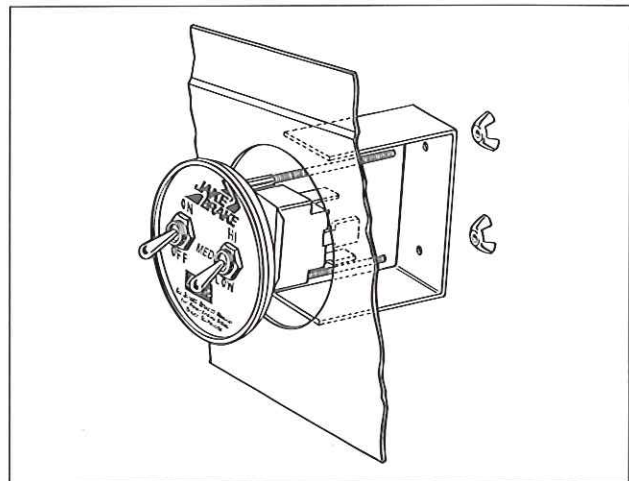

FIG. 26
- Install the switch assembly with the bracket, lock washers and wing nuts (see Fig. 26).
4. Install the switch assembly with the bracket, lock washers and wing nuts (see Fig. 26, page 11).